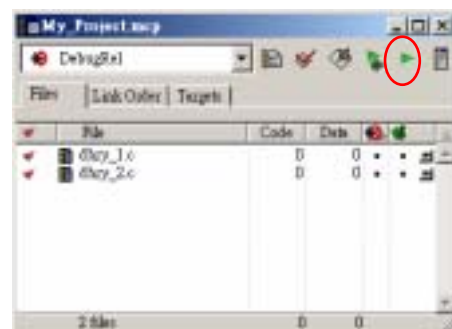

Figure 25. Debug the project from Project Window.
- Click on **Run** button from Project Window, as shown in Figure 25. The CodeWarrior IDE then calls debugger to load and execute the image. The term ARM Runner refers to the ARM debugger that is called to execute, rather than debug, an image file.